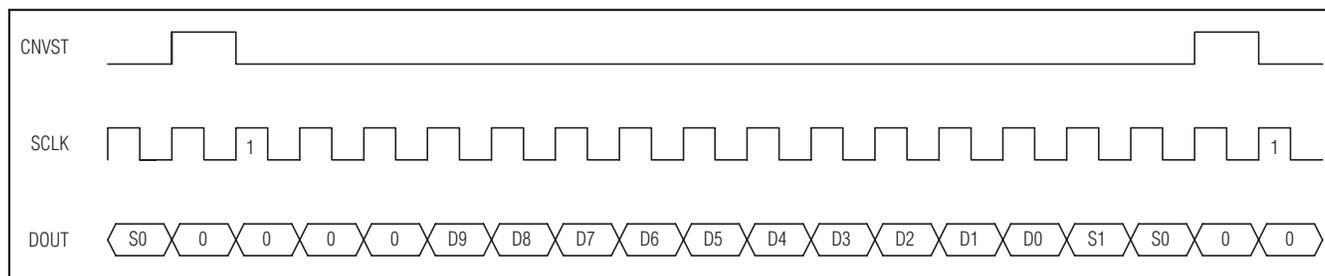

Figure 17. DSP Interface—Continuous Conversion
The MAX1076/MAX1078 can also be connected to the TMS320C54_ by using the data transmit (DX) pin to drive CNVST and the CLKX generated internally to drive SCLK. A pullup resistor is required on the CNVST signal to keep it high when DX goes high impedance and 0001hex should be written to the DXR continuously for continuous conversions. The power-down modes may be entered by writing 00FFhex to the DXR (see Figures 17 and 18).
sions, idle CNVST high and pulse it low for the entire conversion. The ADSP21_ _ _ STCTL and SRCTL registers should be configured for late framing (LAFR = 1) and for an active-low frame (LTFS = 1, LRFS = 1) signal. This is also the best way to enter the power-down modes by setting the word length to 8 bits (SLEN = 1001). Connect the V_L pin to the ADSP21_ _ _ supply voltage when the MAX1076/MAX1078 are operating with a supply voltage higher than the DSP supply voltage (see Figures 17 and 18).